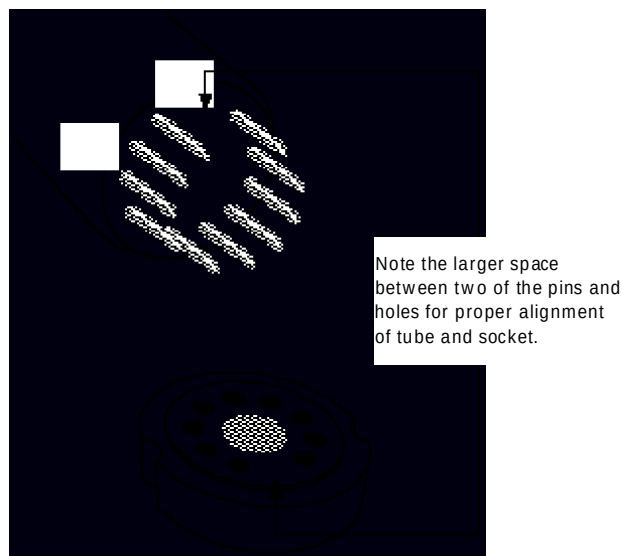

Figure 5 · Tube pin alignment with the socket.
5. Take the V1 tube and examine the pins noting the large space between two of the pins. This space will align with the same larger space between two of the pin holes on the socket. Insert the V1 tube into the V1 tube socket, making sure all pins and pin holes are aligned (see Figure 5). Do not force the tube into the socket. Rock the tube gently while pushing slowly until the tube is firmly seated. Repeat this step for the remaining tubes, V2 tube to the V2 tube socket, V3 tube to the V3 tube socket, V4 tube to the V4 tube socket.